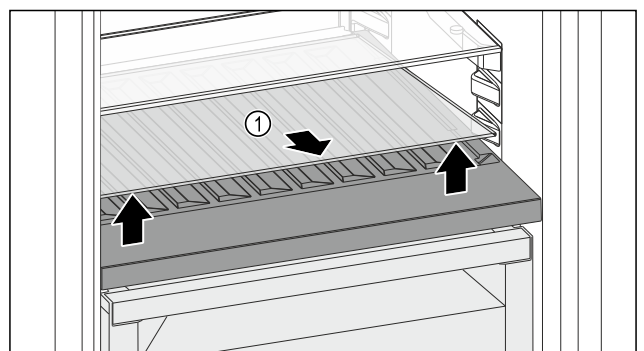

Fig. 174
- Lift the glass shelf Fig. 174 (1) at the front and remove.
- Store the glass shelf Fig. 174 (1) in a safe place outside the appliance.
- Insert the glass shelf (2) under the variable bottle rack.